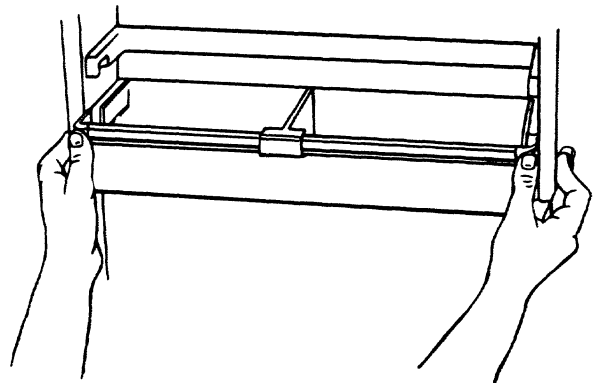

Figure 47
d. To reinstall, use one hand at each side of bucket. Slide bucket into grooves on door. Push gently with thumbs until tabs snap and lock into place. See Figure 47.